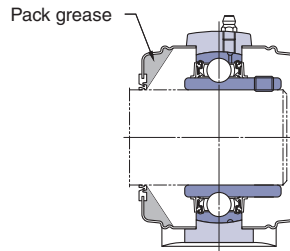

Fig. 14.12 Packing grease in internal space of seal lip of covers
- (1) Apply grease all around the seal lip of the cover, and pack the internal space of the cover with grease (approximately 1/3 to 1/2 of the space capacity) (Fig. 14.12).